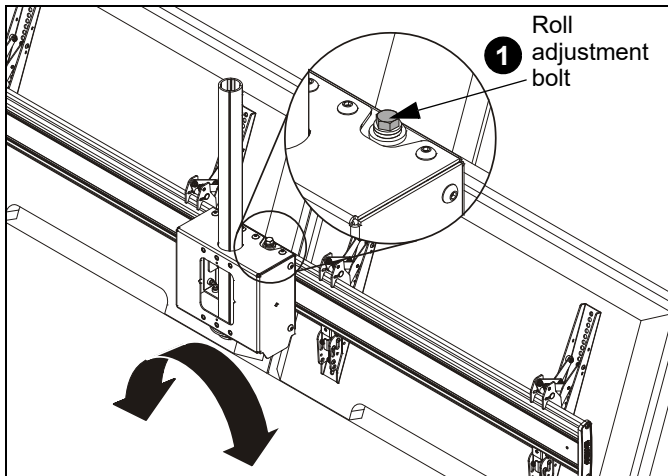

Figure 12
1. Turn the roll adjustment bolt in the direction necessary for the desired roll. (See Figure 12)